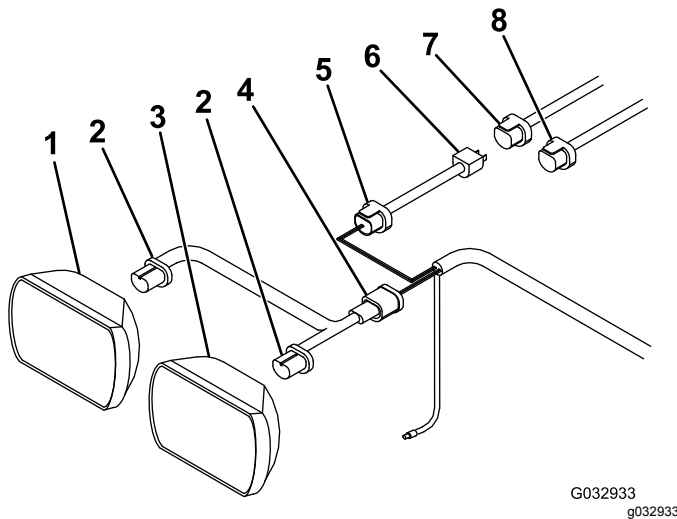

Figure 27
1. Disconnect the wire harness plugs from the back of the left vehicle headlights (Figure 27).
2. Connect the 2 ends of the headlight adapter to the back of the left vehicle headlights (Figure 27).
3. Connect the black plug from the headlight adapter to the long wire harness (Figure 27).
4. Connect the blue plug from the headlight adapter to the blue plug on the long wire harness (Figure 27).
5. Connect the free end of the headlight adapter to the previously disconnected low-beam plug on the vehicle wire harness (Figure 27).
6. Grease, tuck, and secure the previously disconnected high-beam plug on the vehicle wire harness (Figure 27).